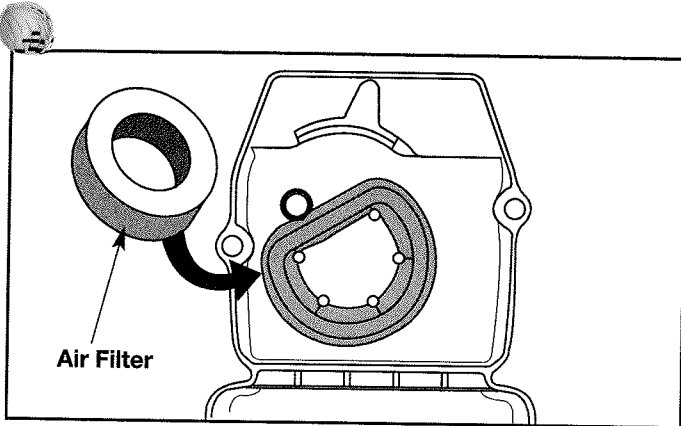

Fig. 24
2. Remove the air filter from behind the air filter/muffler cover. (Fig. 24).
6. Replace the air filter in the air filter/muffler cover (Fig. 24).